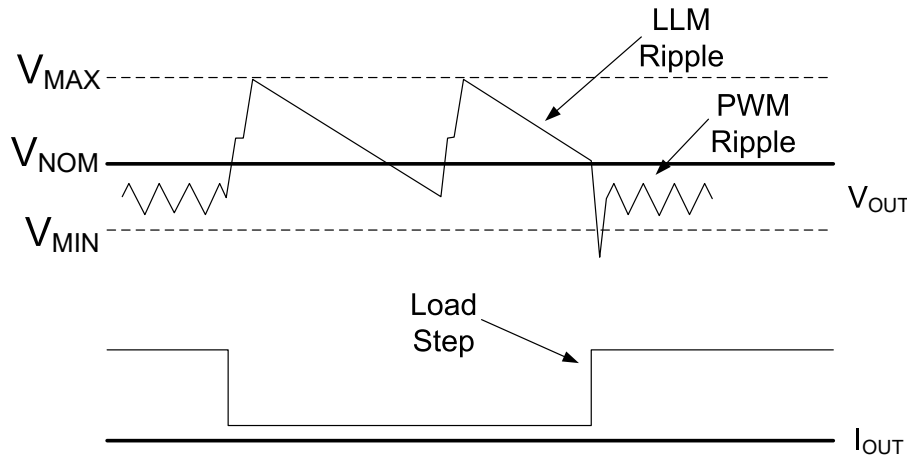

Figure 5. VOUT behavior in LLM operation
- (1) Step  $V_{OUT}$  up by approximately 1.0% above the nominal operating output voltage setting,  $V_{NOM}$  and as low as -0.5% below  $V_{NOM}$ , and then
- (2) Shut down unnecessary circuitry, and then
- (3) Monitor  $V_{OUT}$ .
When  $V_{OUT}$  falls below  $V_{NOM}$ , the device will repeat (1), (2), and (3). The voltage step up, or pre-positioning, improves transient droop when a load transient causes a transition from LLM mode to PWM mode. If a load transient occurs, causing  $V_{OUT}$  to fall below the threshold  $V_{MIN}$ , the device will exit LLM operation and begin normal PWM operation. Figure 5 demonstrates  $V_{OUT}$  behavior during transition into and out of LLM operation. Many multi-mode DC-DC converters suffer from a condition that occurs when the load current increases only slowly so that there is no load transient driving  $V_{OUT}$  below the  $V_{MIN}$  threshold. In this condition, the device would never exit LLM operation. This could adversely affect efficiency and cause unwanted ripple. To prevent this from occurring, the EN6347QI periodically exits LLM mode into PWM mode and measures the load current. If the load current is above the LLM threshold current, the device will remain in PWM mode. If the load current is below the LLM threshold, the device will re-enter LLM operation. There may be a small overshoot or undershoot in  $V_{OUT}$  when the device exits and re-enters LLM.